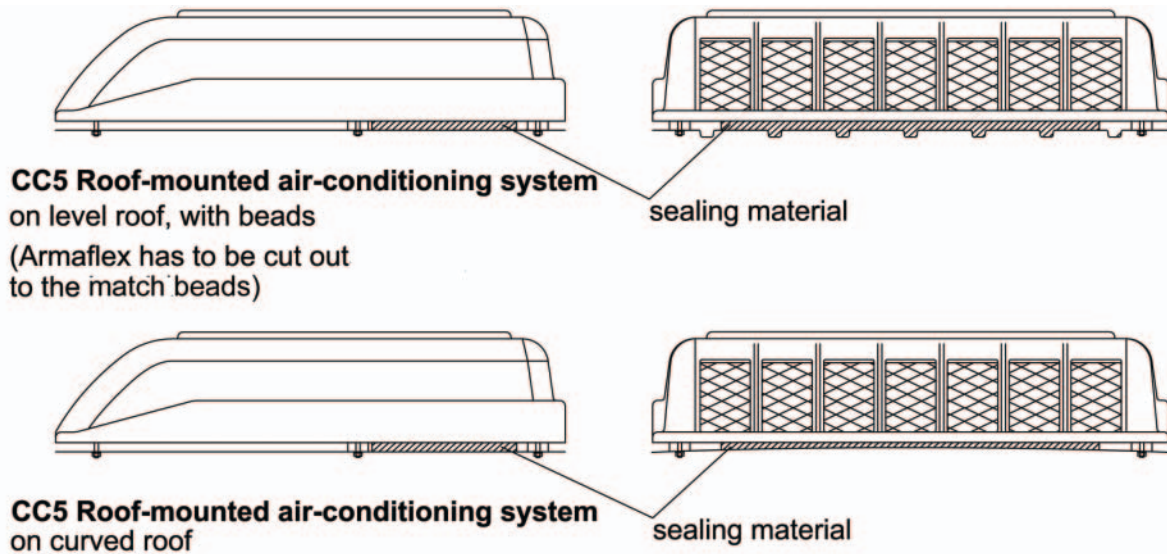

Fig. 4.7
- a) Cut out the weatherseal taking care to adapt its thickness to the contours of the roof (beads, channels and roof curvature), so that the contours (Fig. 4.7) are properly sealed. The thickness of the sealing material should be compressed by approx. 20 %-40 % when the air-conditioning unit is installed.